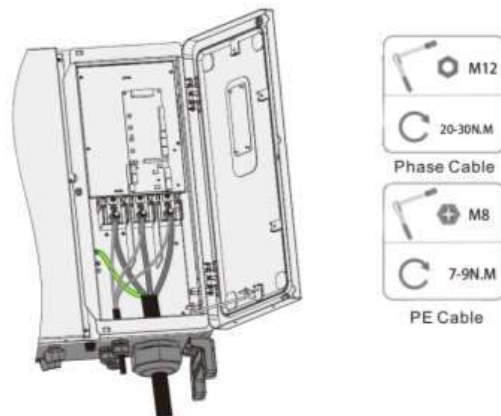

Fig. 4-51 Fix the cable
- 6) Fix the cable to the corresponding terminal (Fig. 4-51).